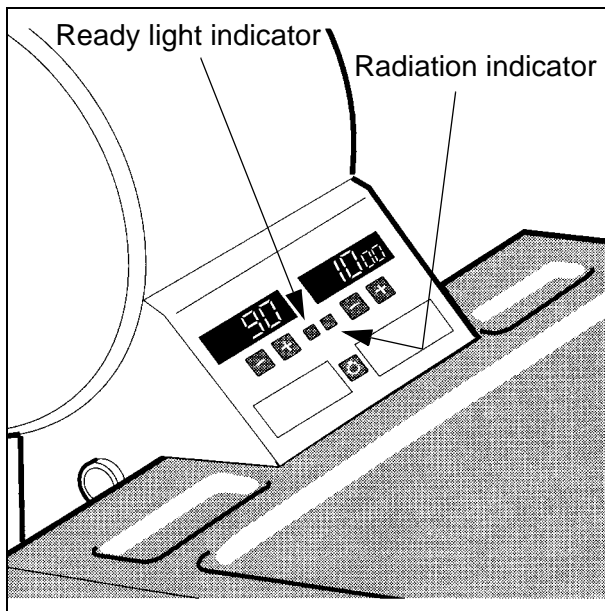

Fig. 4
- Check that the "Ready" light indicator lights green after approximately 2 minutes, see Fig. 4. If the "Ready" light indicator is not lit, a display message is shown on the display. See "Service Instructions, chapter Display messages".